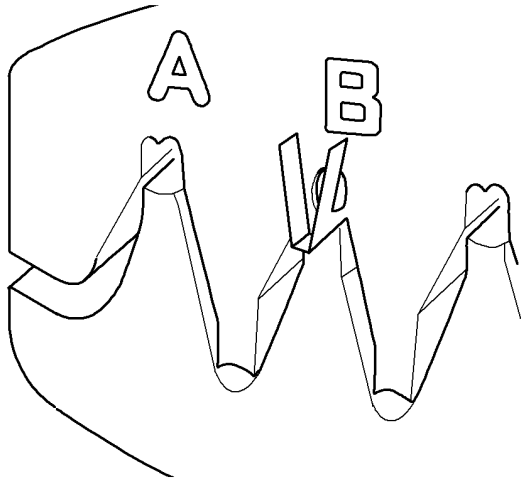

Figure 3 Crimping the terminal
2. **Figure 3.** Insert the terminal into the appropriate position of the crimp tool and close the tool just enough to hold the terminal.